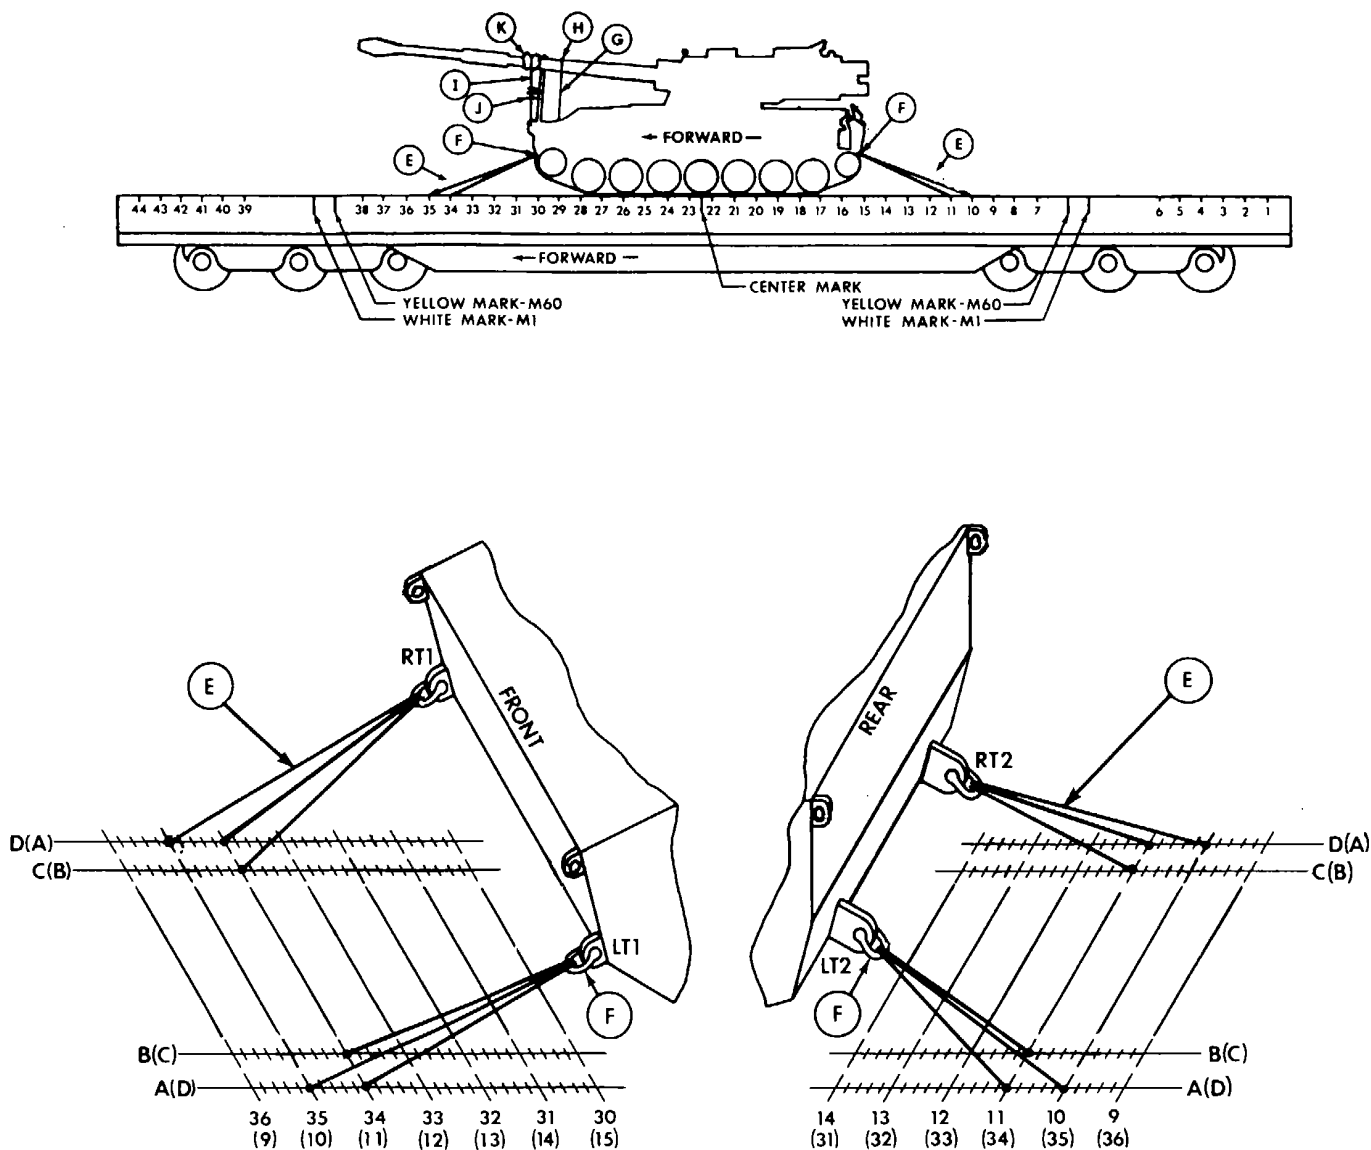

Figure 7-1. Chain tiedown arrangement for one MO19 self-propelled howitzer.
*b.* Two M109 howitzers can be loaded onto the flatcar by being driven or lifted onto the car. Both howitzers must be centered over the centerline of the car so that the track overhang is about equal on both sides. Both howitzers must be facing the same direction and secured as shown in figure 7-2. The front of the M109 must be positioned so that the center of the front roadwheel is lined up with the yellow mark nearest position No. 44. The other M109 must be positioned so that the center of the TM 55-2220-058-14 rear roadwheel is lined up with the yellow mark at the other end of the car. The application of materials and chain tiedowns for two M109 howitzers is explained in table 7-3. If one or two M109 howitzers are loaded facing the opposite direction from that shown in figures 7-1 and 7-2, the chain tiedowns for one M109 howitzer will be applied as explained in table 7-4; or, for two howitzers, table 7-5.
**Table 7-2. Application of Materials for Securing One M109 Self-Propelled Howitzer (Fig 7-1)**
**Table 7-4. Application of Materials for Securing One M109 Howitzer Facing the Opposite Direction from that Shown in Figure 7-1**
(For location of "items, " refer to fig 7-1)
(For location of "items, " refer to fig 7-1)Continued